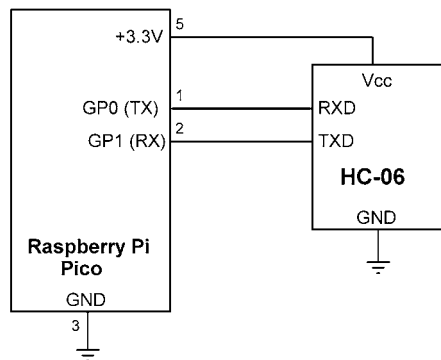

Figure 11.9: Circuit diagram of the project.
Circuit Diagram: Figure 11.9 shows the project circuit diagram. RXD and TXD pins of the Bluetooth module are connected to UART 0 pins GP0 (TX) and GP1 (RX) of Raspberry Pi Pico respectively.